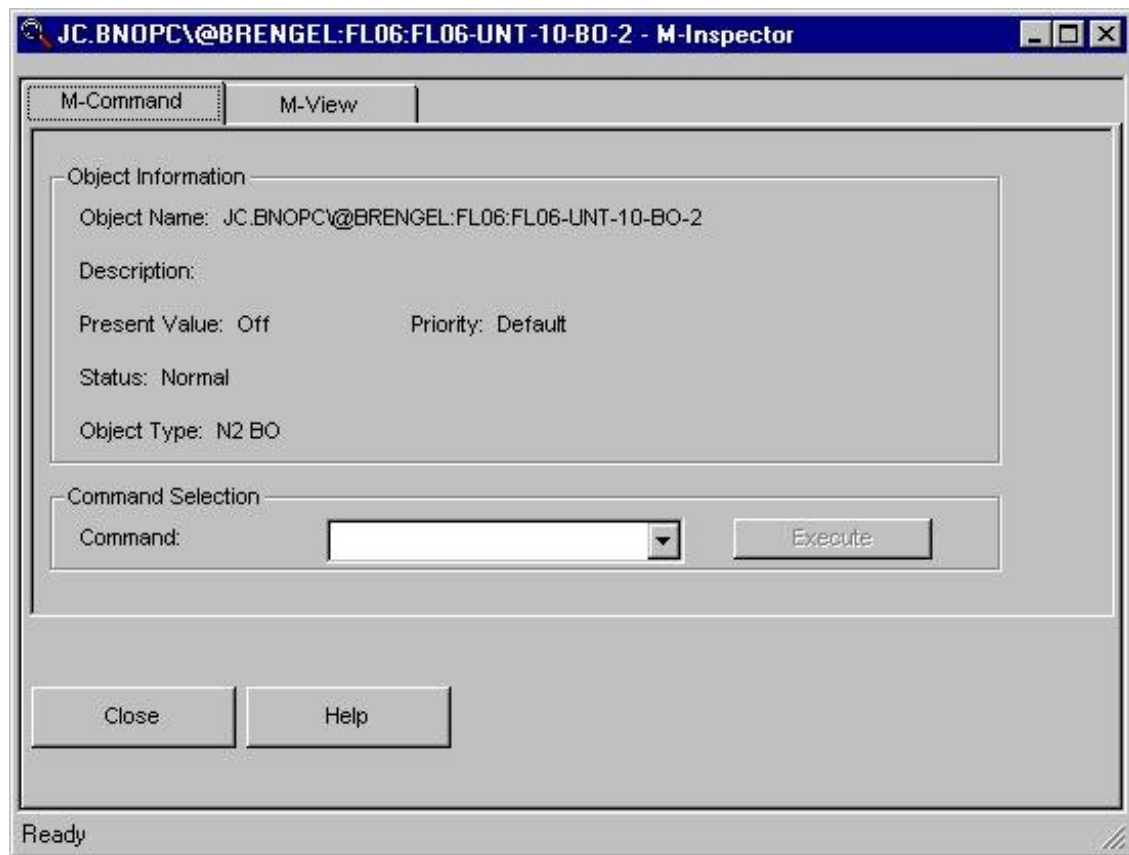

Figure A-3: M-Inspector Window with M-Command Tab Visible
2. From the Actions menu, select Inspect. The M-Inspector window appears with the M-Command tab selected and the complete hierarchical path of the object appearing in the Title bar (Figure A-3).
2. From the Actions menu, select Inspect. The M-Inspector window appears with the M-Command tab selected and the complete hierarchical path of the object in the Title bar (Figure A-3).
2. From the Actions menu, select Inspect. The M-Inspector window appears with the M-Command tab selected and the complete hierarchical path or functional name of the object appearing in the Title bar (Figure A-3).